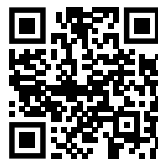

Fig. 142
- ▶ Отворете [Liebherr SmartMonitoring Dashboard](https://smartmonitoring.liebherr.com). (виж Fig. 142)